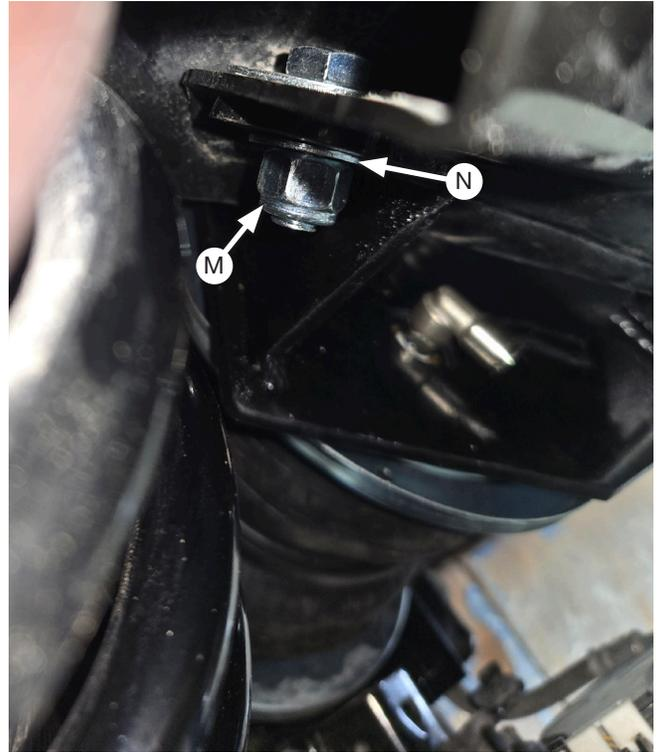

Fig. 19
- Place a single 3/8" flat washer (N) on each of the J-bolts and also on the 3/8-16 X 1" hex-head bolt (J), then place a 3/8-16 nylon lock nut (M) on each (Fig. 19). Tighten the hardware to 20 lb.-ft (27Nm).